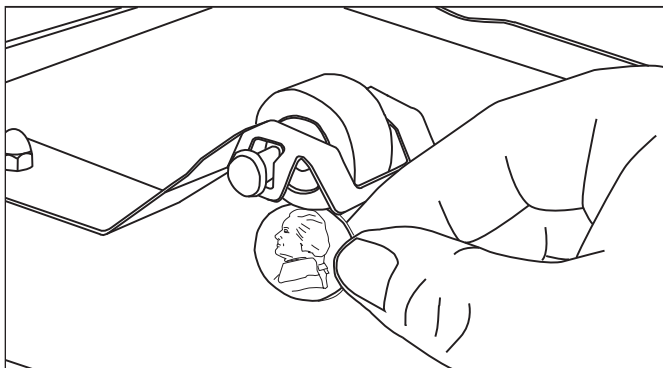

Figure 11. Measuring Roller Tensioner
Align the ends of the Belt Wrap properly (Figure 11) or the Belt Wrap may be damaged.
1. Measure the Roller Tensioner on both inner Conveyor Covers (Figure 11) using a U.S. Nickel.